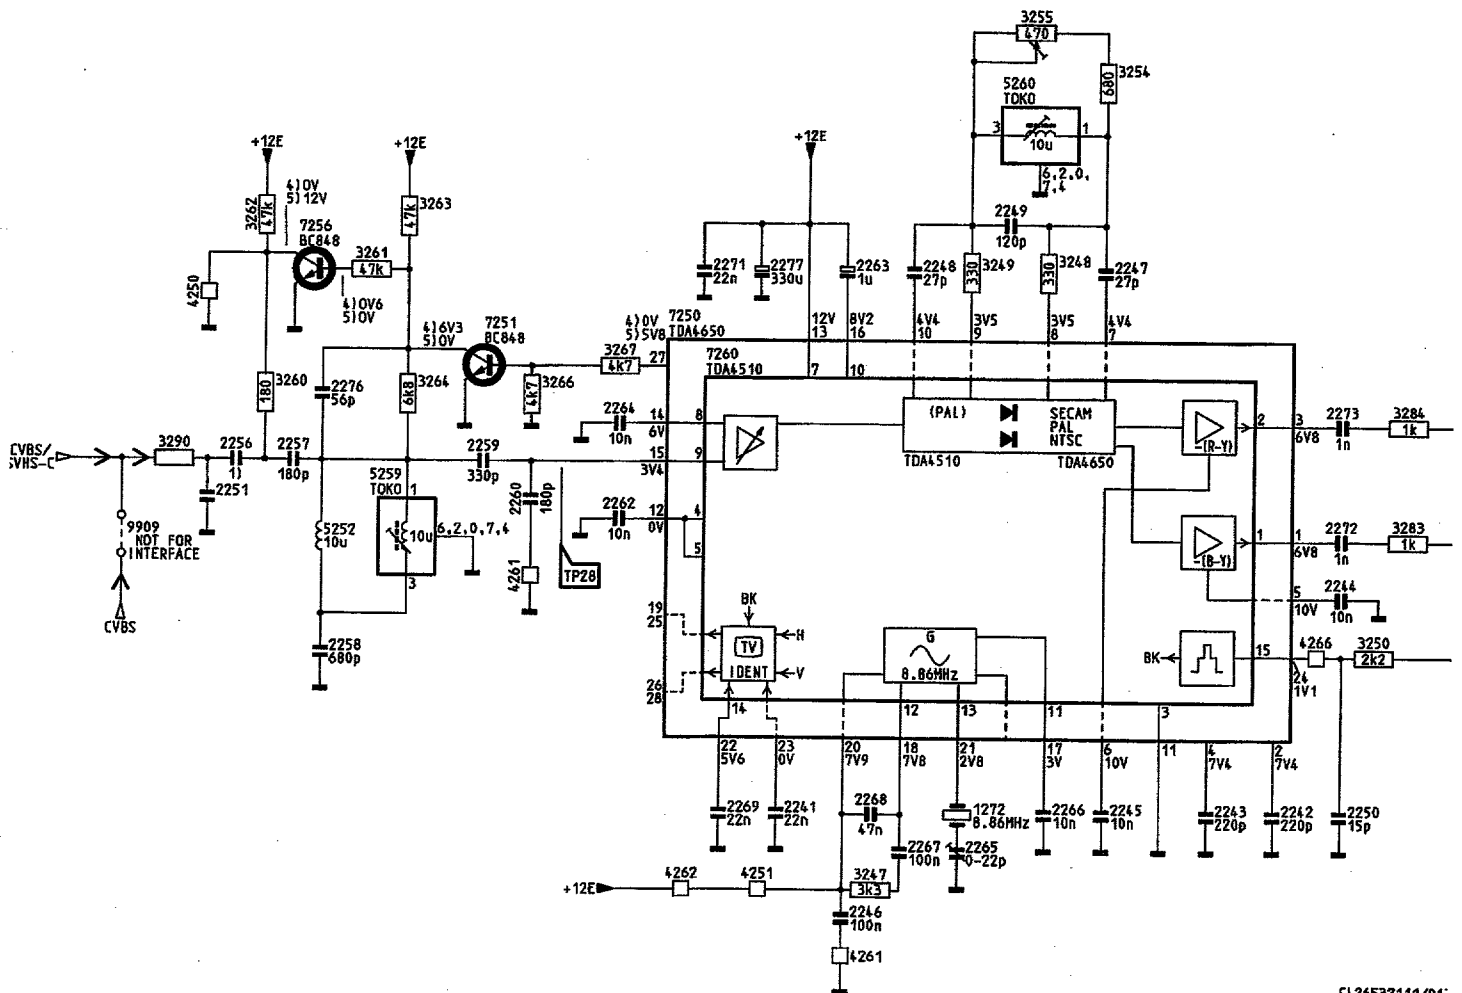

Fig. 5.3
5.3 Canal de chrominance (Fig. 5.3)